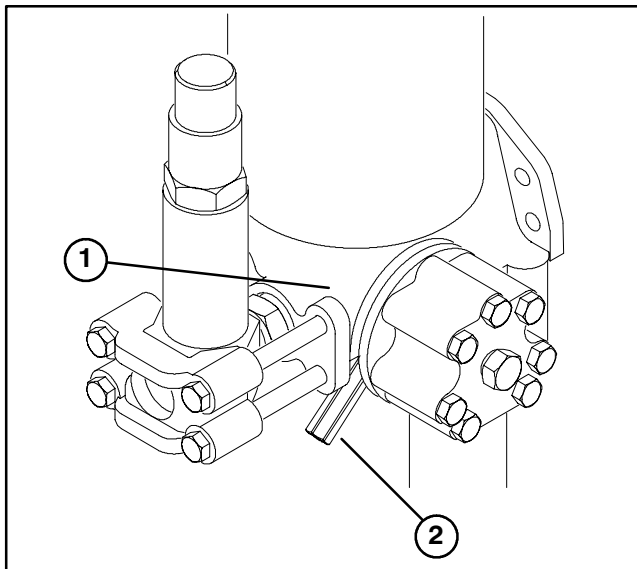

Figure 11
6. Reach under hood and open bleed valve on main valve at rear of machine (Fig. 11). Bleed system until a steady flow of water comes from outlet, then close valve.